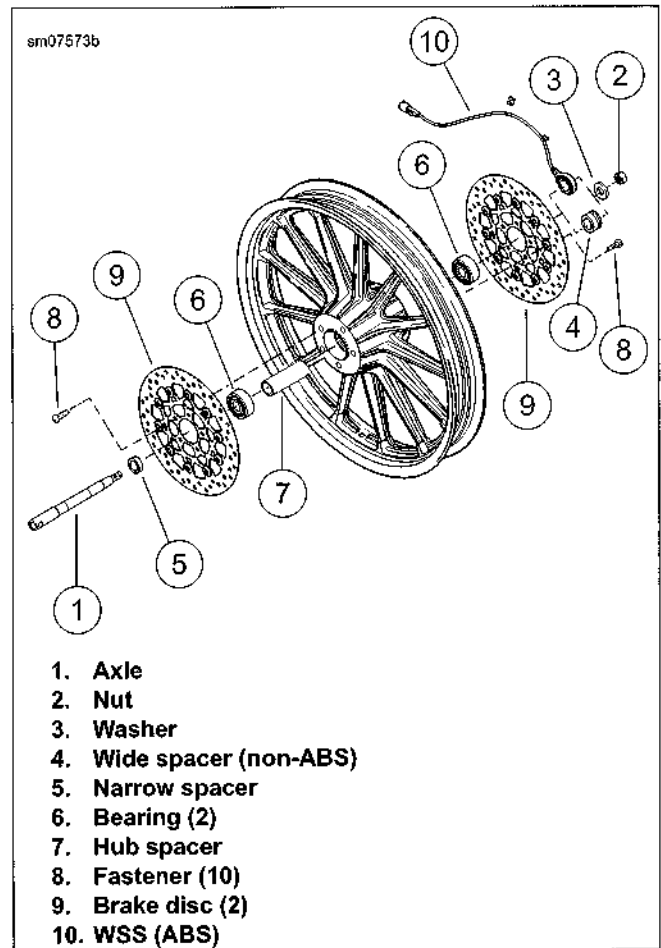

Figure 2-14. Dual Disc Wheel: XL 883R
1. See Figure 2-14. Install hub spacer (7) and new wheel bearings (6). See 2.5 WHEELS, Sealed Wheel Bearings.